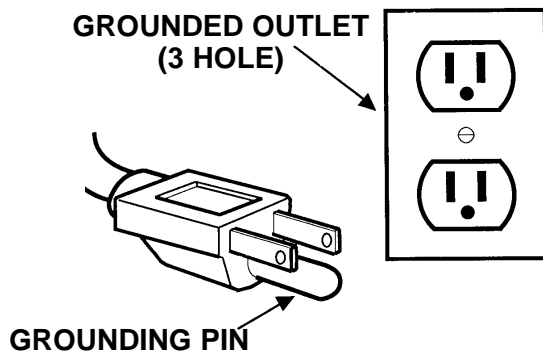

Figure 1
3. Plug the power cord into a grounded 120 volt outlet (Figure 1).